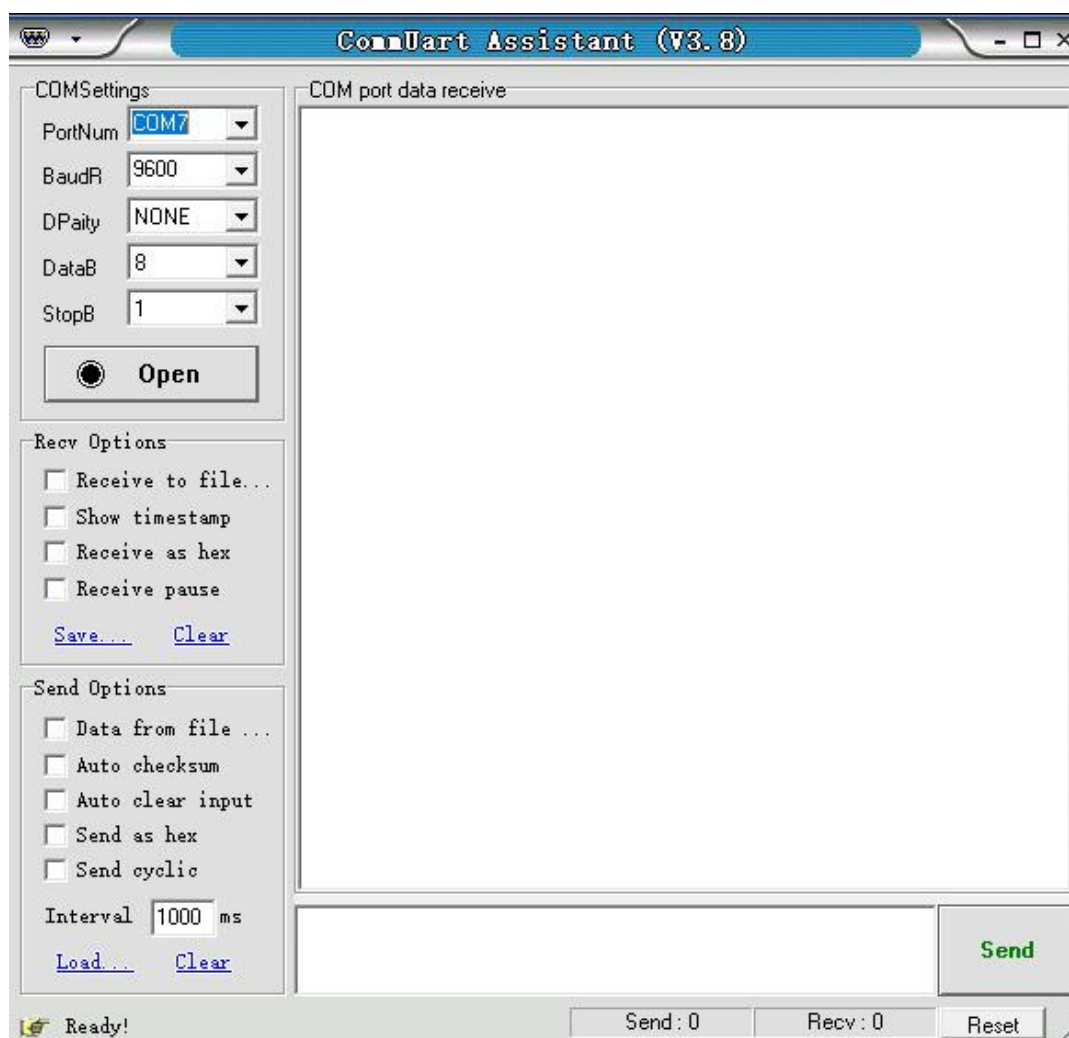

Fig.100 "UartAssistant.exe" Software Display
3. Open the folder 'Uart Driver' in your disk and double click the file 'UartAssist.exe'. It will call out the software interface, as is shown in Fig.100.